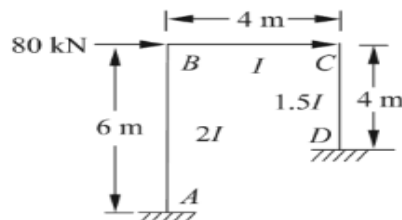

Fig. Q4
4. Analyse the frame shown in Fig. Q4 by moment distribution method. Also draw BMD. 20 (3 :2: 2.2.1)